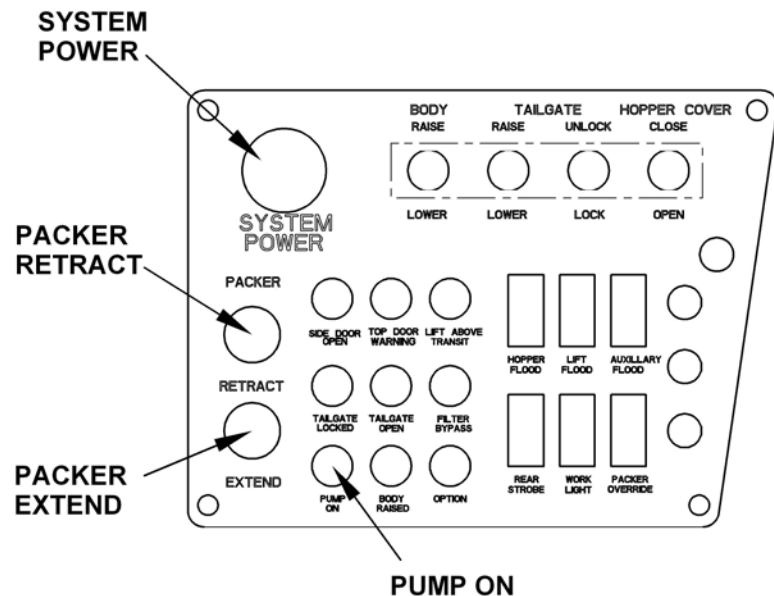

Figure 47. AutoPack™ Controls
4. PRESS and RELEASE the start/extend button of the packing mechanism. See Figure 47.